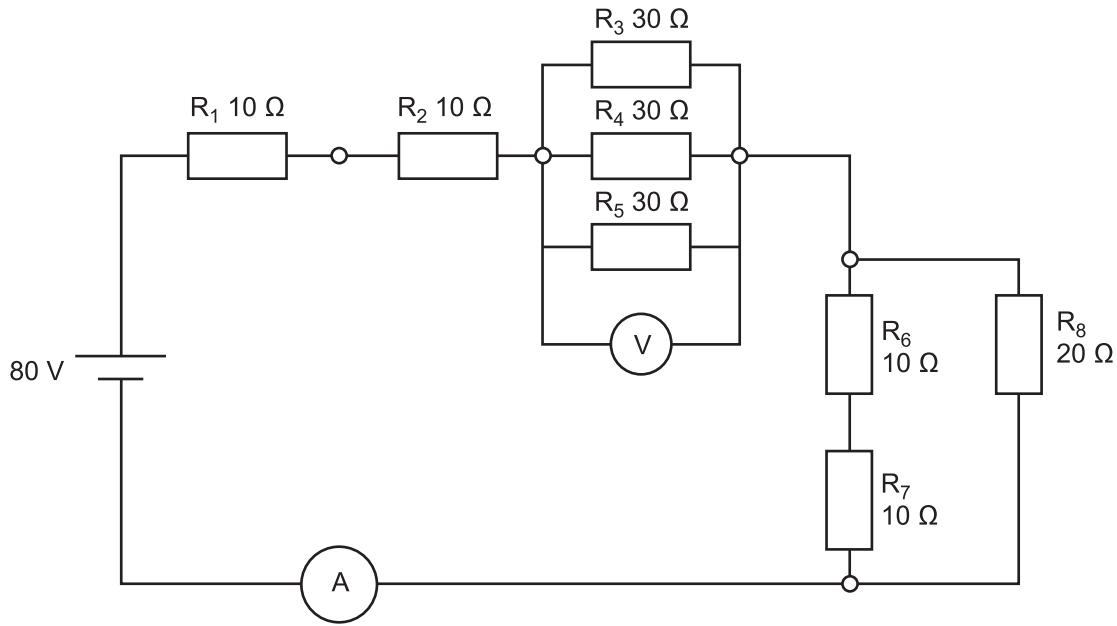

Figure 3
Figure 3 shows a circuit diagram. Use this figure to answer the following questions.
- d. Calculate the power used by the circuit (Figure 3) on page 13.